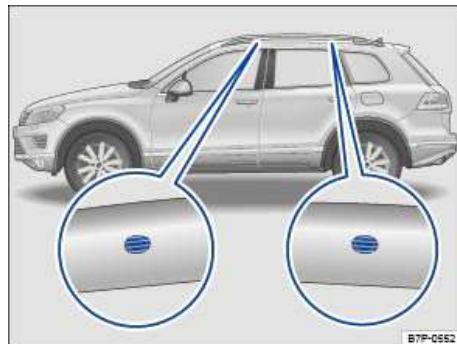

Fig. 107 Attachment points for the base carrier and roof rack.
No base carrier or roof rack can be installed *unless* the vehicle has roof rails ⇒ fig. 107.
The mounting holes for positioning are on the inside of the roof rails ⇒ fig. 107 (magnified view).
- Only mount the roof rack base carrier on the markings shown in the illustration ⇒ fig. 107.